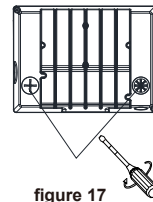

figure 17
2. After adjusting the required control function,tighten the metal plug and the plastic plug clockwise.(figure 17)